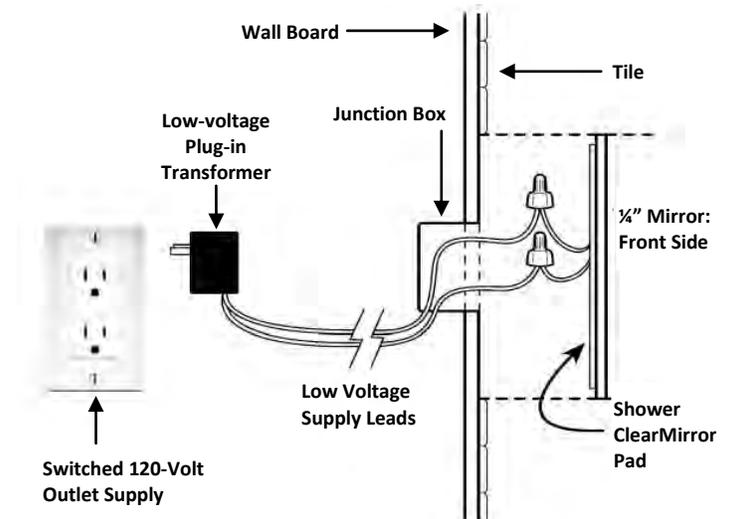

Figure 2. Running the power wires and mounting the mirror to the wall board (side view).
4. Connect power supply wires the wire leads on the mirror with wire connectors (see Figure 2).
7. Place mirror into the opening keeping a  $\frac{1}{8}$ -inch border around the entire mirror (see Figure 2).